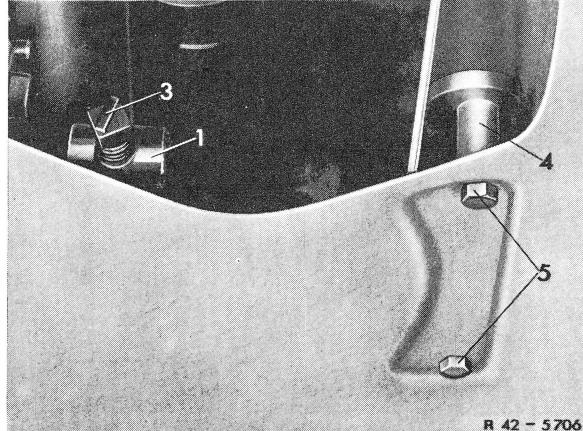

Fig. 5
Caution! The lug on the adjusting screw (3) should always be vertical (Fig. 5).